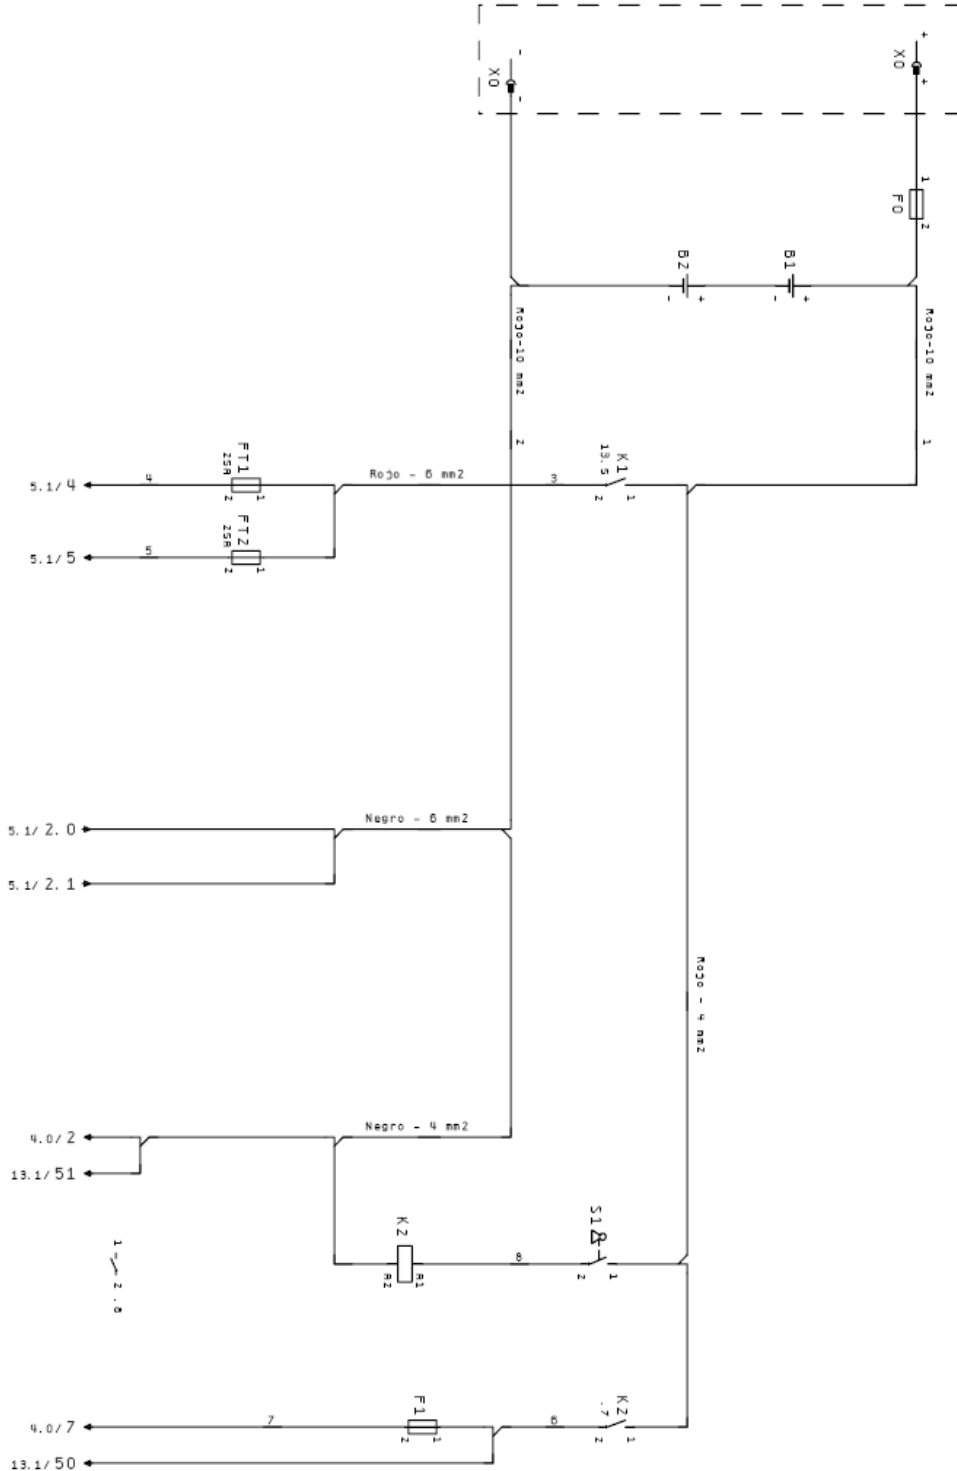

Figure 27: Main Supply Drawing
- Figure 27 *Main Supply Drawing*